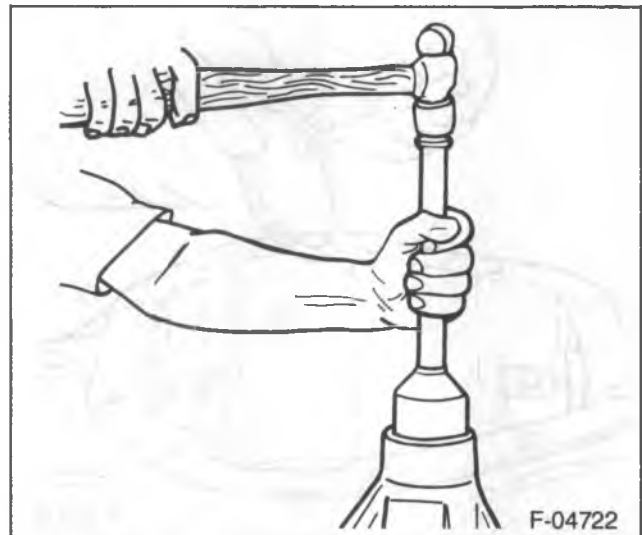

Figure 34—Installing the Pinion Seal
- Remove the pinion nut (12), washer (11), pinion flange (10), slinger (8) and bearing cone (7).
10. Preload shims (6).
11. Outer bearing (7) and slinger (8).
12. Outer pinion oil seal (9) using D-163 (figure 34).
13. Pinion flange (10).
14. Washer (11) and a new pinion nut (12).